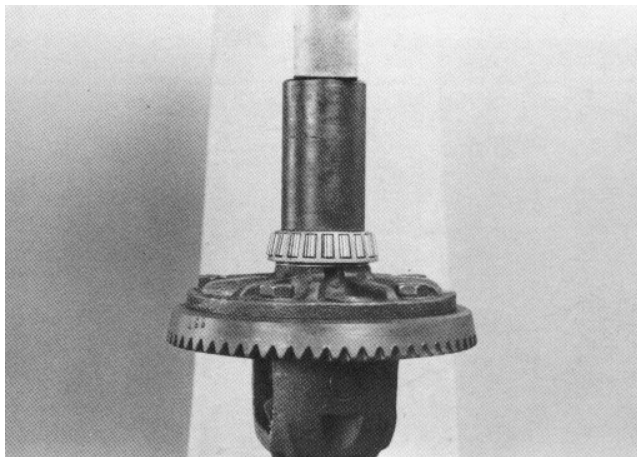

Figure 51
17. When installing new differential bearings, reuse the original shims or use new shims of the same thickness. Press the bearing onto the differential case. If a new differential case is being installed, start with a .020 inch pack of shims under each differential bearing. Shims are available in .003, .005, .010, and .030 inch sizes (Fig. 51).